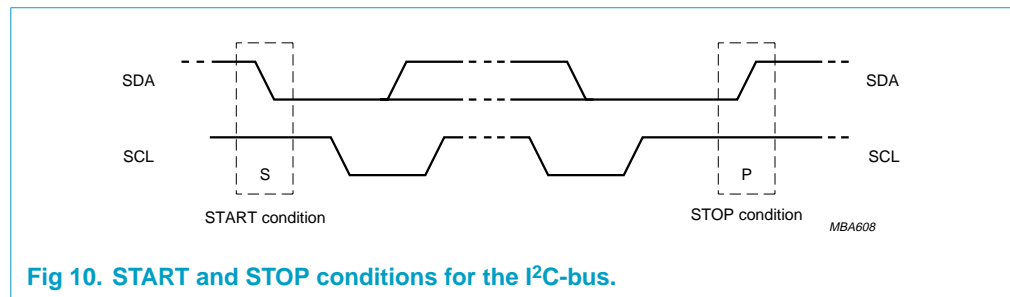

Fig 10. START and STOP conditions for the I²C-bus.
Both data and clock lines remain HIGH when the bus is not busy. A HIGH-to-LOW transition of the data line, while the clock is HIGH is defined as the START condition (S). A LOW-to-HIGH transition of the data line while the clock is HIGH is defined as a STOP condition (P); see Figure 10.